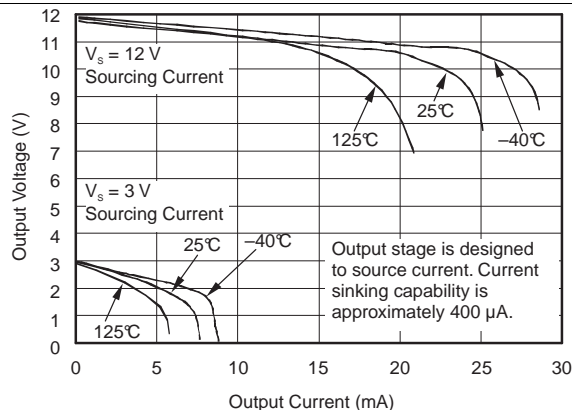

Figure 7. Positive Output Voltage Swing vs Output Current
(1) Total output error includes effects of gain error and V_{OS} .
(2) For details on this region of operation, see Accuracy Variations as a Result Of \$V_{SENSE}\$ and Common Mode Voltage.
(3) See Figure 7.
(4) Specified by design